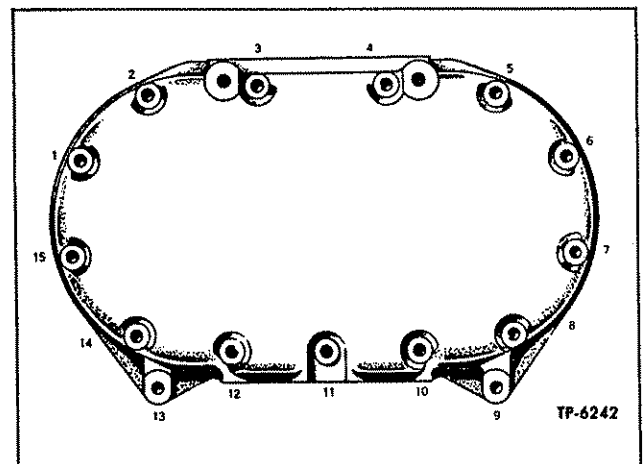

Figure 68—Balance Weight Cover Tightening Sequence
2. Position new gasket to front end plate. Install cover and secure with bolts and lockwashers. Refer to figure 68 and tighten bolts in sequence indicated. If cylinder head is removed, leave top bolts loose to prevent interference when installing head.